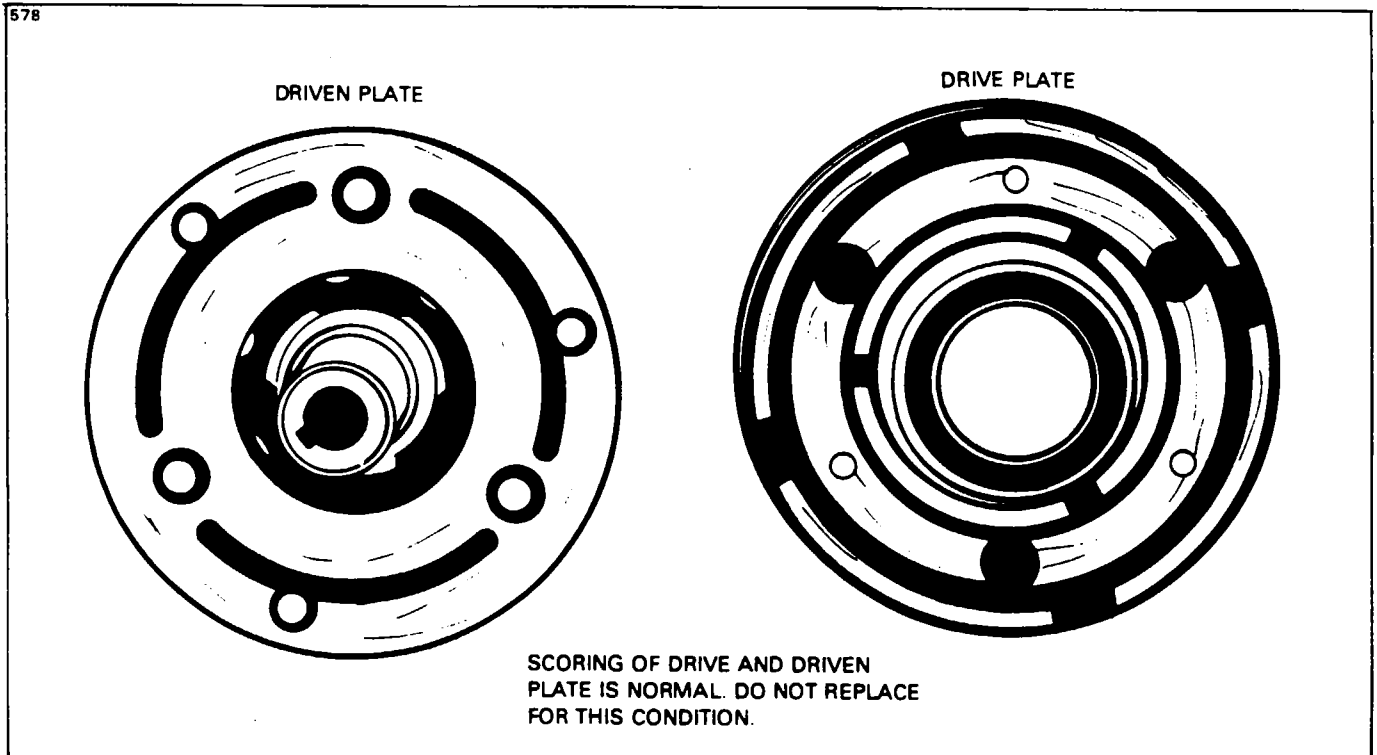

Figure 21-27. Drive and Driven Plates
6. Inspect driven plate for cracks or stresses in the resilient drive. Do not replace driven plate for a scoring condition. (Refer to Figure 21-27.)